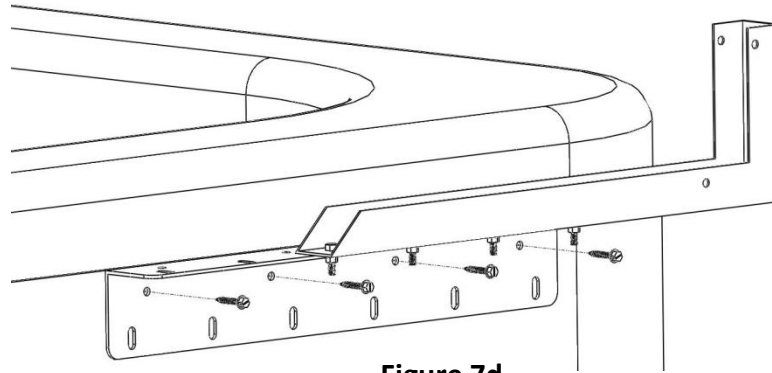

Figure 7d
d. Use the 4 Lag Screws (cvA) to mount the Side Mount Bracket (cvAA) to the side of the spa. Repeat Steps 7a through 7d on the other side of the spa. See Fig 7d. After you install the Lag Screws (cvA) tighten the Medium Hex Bolts (cvD) and Lock Nuts (cvF) holding the brackets together.